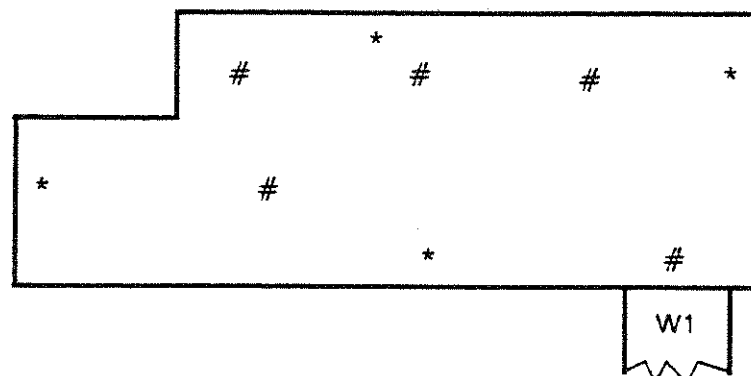

Fig. 4-1 Screws to fasten the display board
*Caution: Remove only the screws marked by \* in figure 4-1. The other screws (#) serve to fasten the sheets between keys and PC board.*